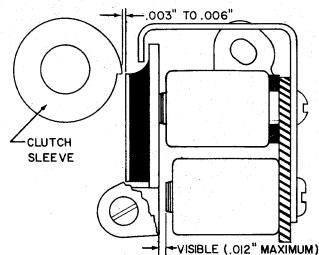

Figure 13
- Manually pivot the clutch armature to the fully attracted position and see that there is a visible clearance to the lower magnet coil, not exceeding .012" (Figure 13). If the clearance is incorrect, change the coils or the armature, whichever is at fault.